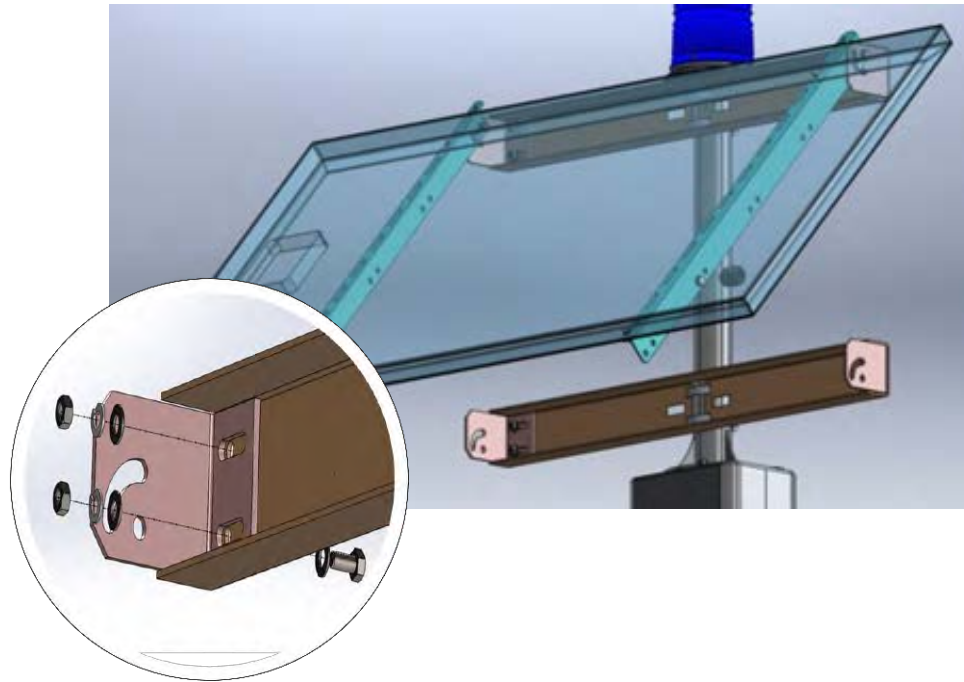

Figure 15. Installation of the clips to the lower bucket
13. Bolt the remaining two clips to the lower bucket using the 5/16-18 x 3/4" bolt and flat washer on one end and a flat washer with a lock washer under the nut on the other end as shown in **Figure 15**.